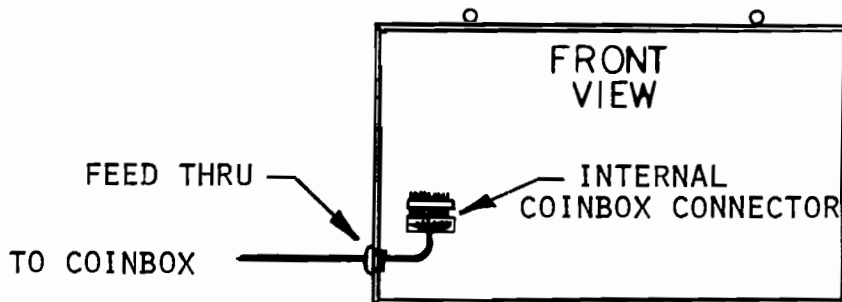

FIGURE 2
- b) Connect game as illustrated in FIGURE 2.